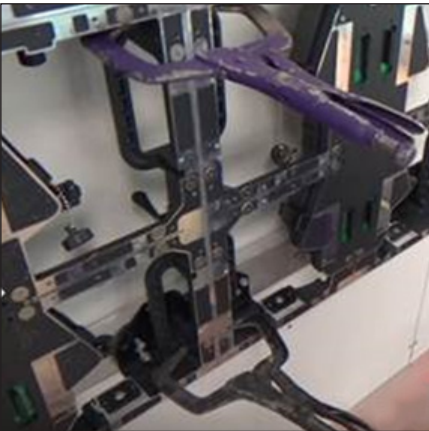

Figure 8: Clamp Panels Together
10. Clamp the panels together with two C-clamps, one at the top and one at the bottom. Refer to **Figure 8**.